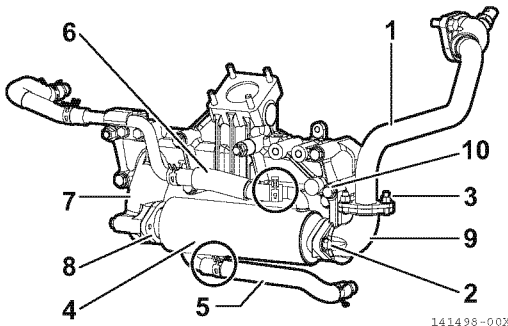

Figure 6-119
2. Loosen the attaching nut (2, **Figure 6-119**) on the EGR cooler side of the EGR pipe (1, **Figure 6-119**), and the attaching nut (3, **Figure 6-119**) on the EGR valve side, to remove the pipe.
3. Loosen the hose clips of the inlet side coolant hose (5, **Figure 6-119**) and the outlet side coolant hose (6, **Figure 6-119**) of the EGR cooler (4, **Figure 6-119**), and remove them. When loosening the clips, put a waste cloth or the like beneath the hose joints in case water flows out.
4. Loosen the bolt (8, **Figure 6-119**) fixing the EGR cooler to the exhaust manifold (7, **Figure 6-119**) flange.
5. Loosen the bolt (10, **Figure 6-119**) fixing the EGR cooler outlet vent (9, **Figure 6-119**) to the exhaust manifold, and remove the EGR cooler along with the vent.